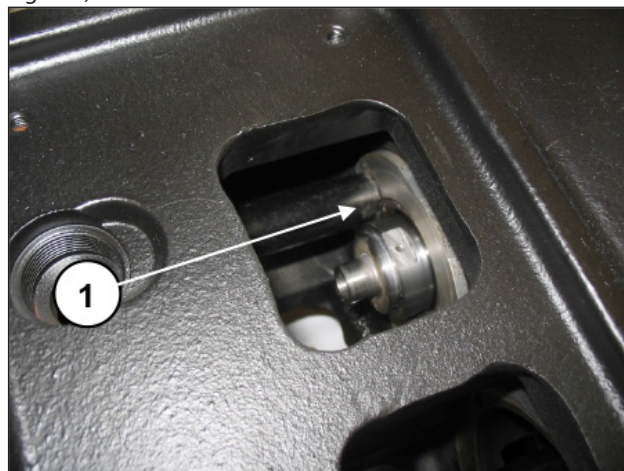
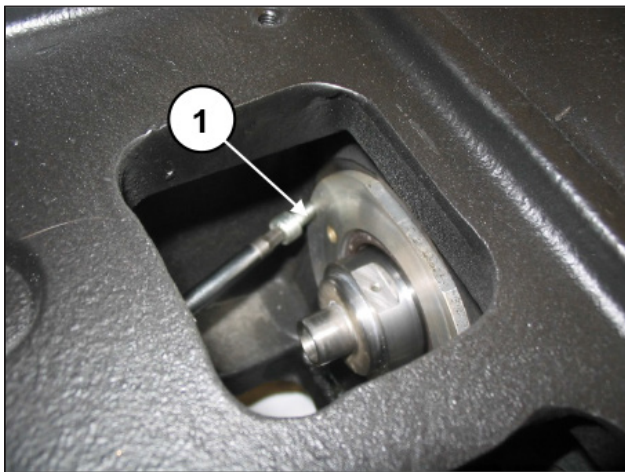

Fig. 119
Fig. 120
Make sure that the cover completely enters its seat (pos. ①, Fig. 119) being careful not to damage the lip of the seal ring. Screw in the oil seal covers using 2 x M6x14 screws (pos. ①, Fig. 120).